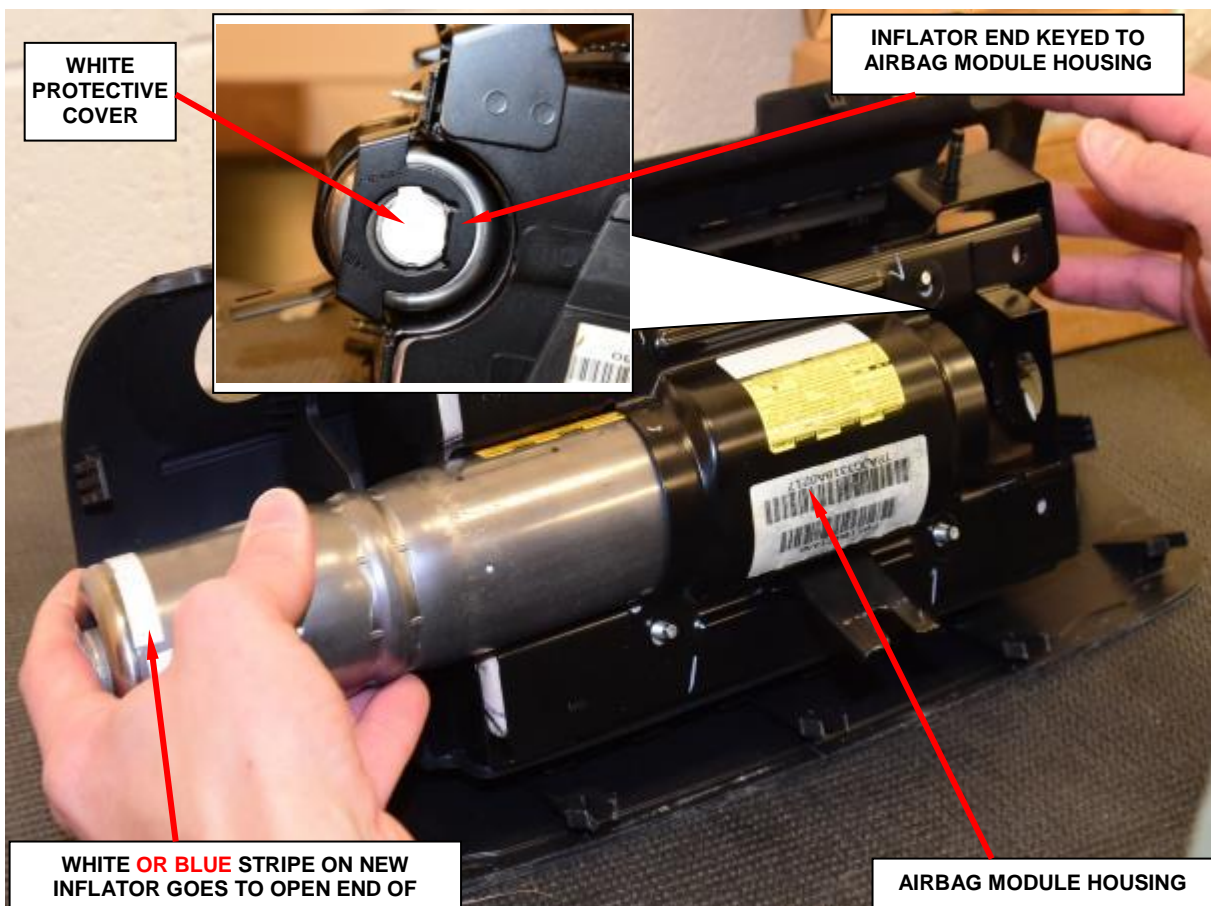

Figure 121 – Inflator Installation
NOTE: The inflator's key MUST line up with the housing's key (Figure 121).
NOTE: The inflator is keyed to fit into the housing. Ensure that when the new inflator is inserted, the keyed end goes in first (Figure 121).
- n. Slide the **NEW** inflator into the passenger airbag module housing. The keyed end is inserted first; therefore, the white stripe on the **NEW** inflator will be located at the open end (Figure 121).